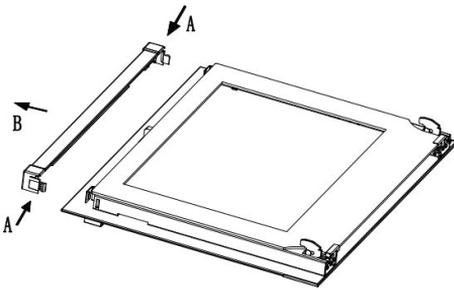

Fig. 6
1. Press the button on left and right side of door, take out top rail. (Fig.6)